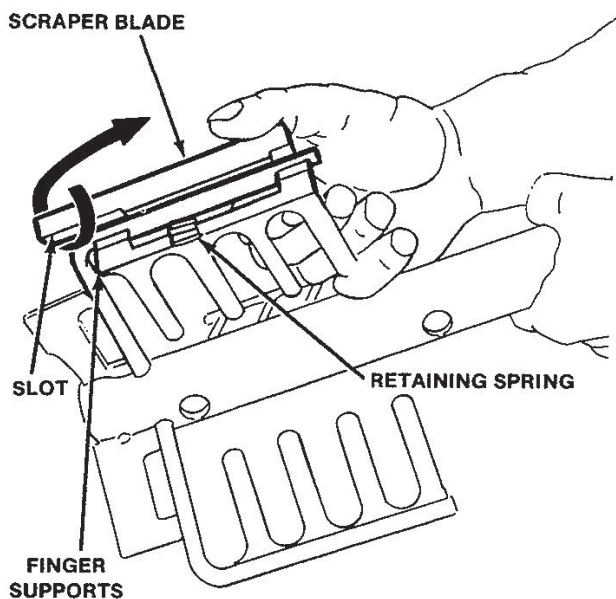

Figure 24. Removing Scraper Blade
- Remove the plastic scraper blade from the agitator by turning the blade counterclockwise (Fig. 24) to the point where the slot is aligned with the finger supports and sliding up and off. Then remove the retaining spring.